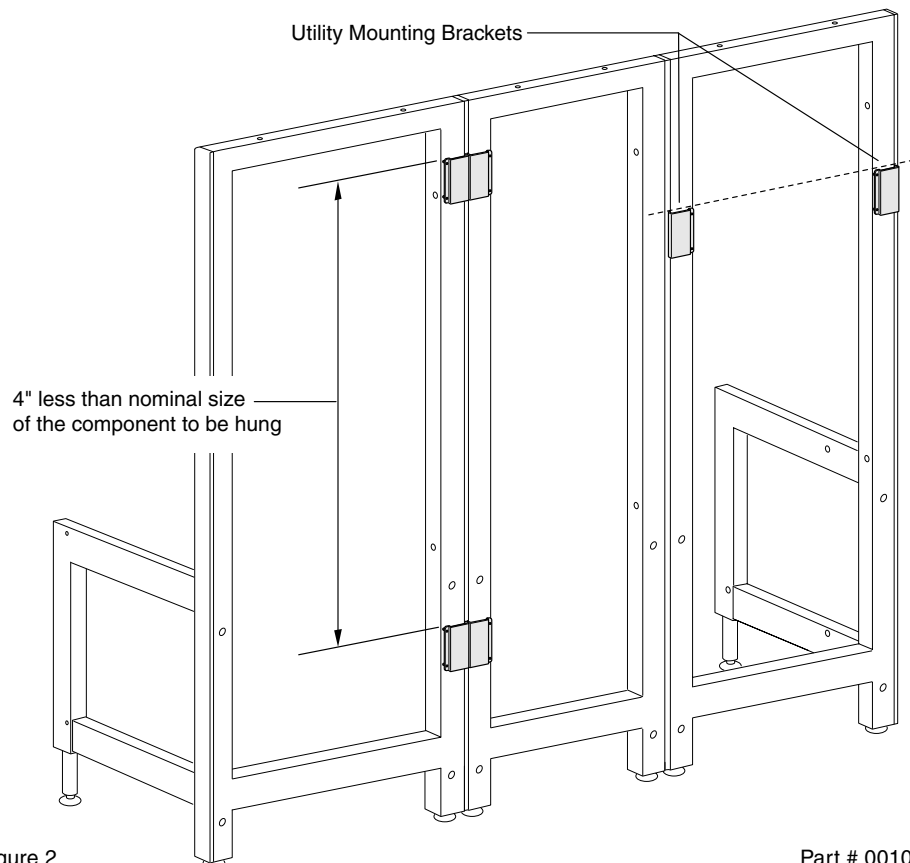

Figure 2
3. Install an additional pair of brackets below the first pair. The distance from the top of the top brackets to the top of the bottom brackets needs to be 4" less than the nominal size of the component to be hung. (Figure 2)
1. At required mounting height, install the brackets on the left and right sides of the frame. Make sure brackets are securely seated in frame. (Figure 2)
2. Install two #10-24x5/8" set screws into the tapped holes on each bracket. Tighten until plate is parallel with the front of the frame. (Figure 2)